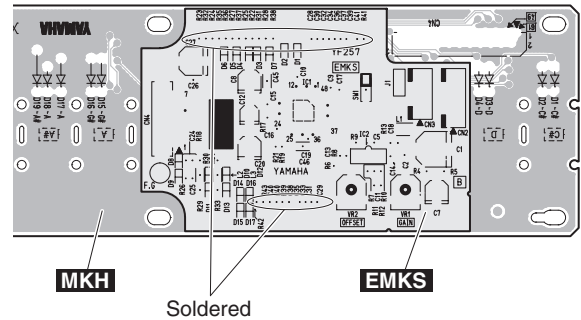

Fig. 22
* **The EMKS circuit board is a part of the MKH circuit board and is soldered to the MKH circuit board at connectors. (Fig.22)**